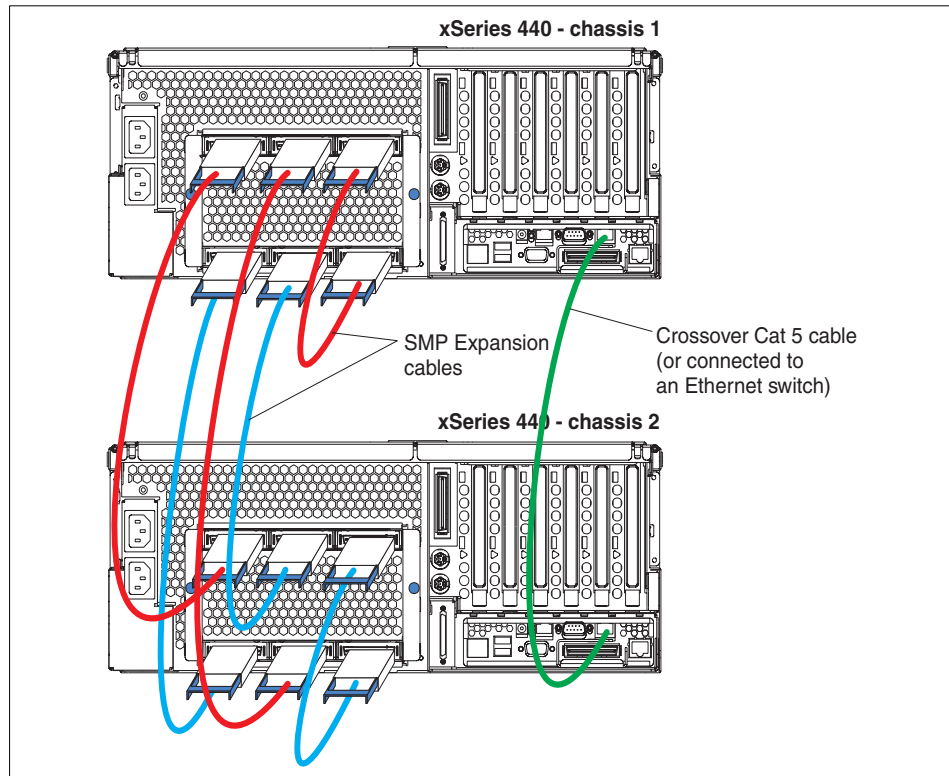

Figure 3-6 Connecting the two x440s together in a 16-way configuration
When connecting two x440 nodes together to form a 16-way configuration, these ports are cabled together as shown in Figure 3-6 on page 76.
- Connecting the two using a crossover cable, as shown in Figure 3-6 on page 76.